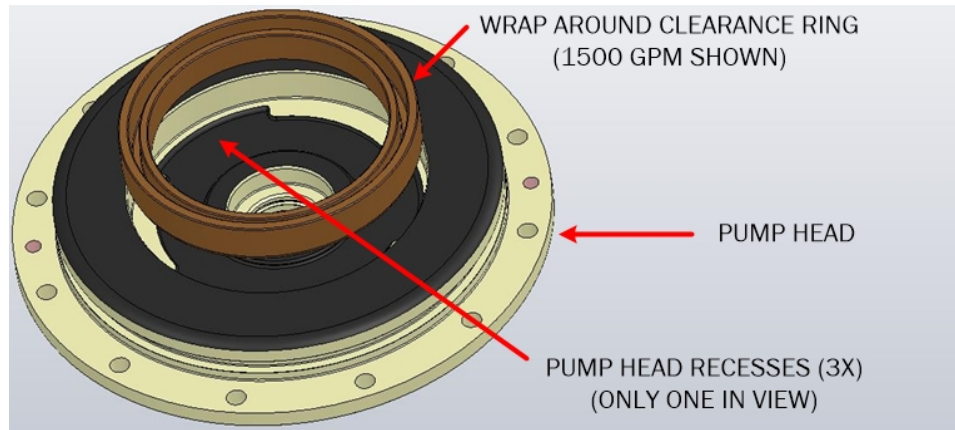

Figure 47. RSD Wrap Around Clearance Ring R & R
- B. Using three (3) L-shaped pry bars and a shop hammer, drive a pry bar under failed clearance ring at each of three (3) recesses in pump head casting. (The cavities/recesses are spaced 120° apart around the pump head.) See Figure 47.